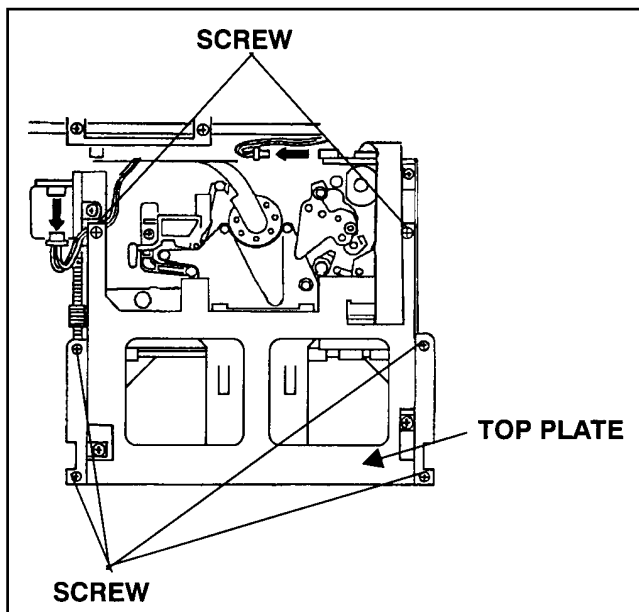

Figure 1-6-1
3. Unscrew the 6 screws as shown in figure 1-6-1, and remove the Top Plate of the Front Loading Unit.